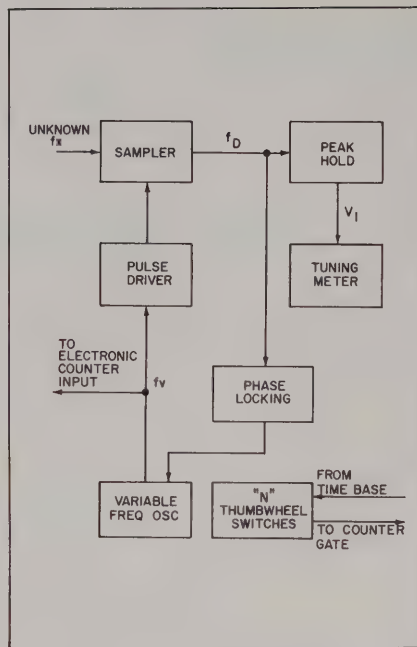

Figure 7. Frequency measurement with HP 5257A Transfer Oscillator using new transfer oscillator principle; counter measures sampling frequency of sampler.
The 5257A operates in a manner analogous to a stroboscope which uses a flashing lamp for measuring vibrational or rotary speeds. That is, if the 5257A variable frequency oscillator output frequency (Figure 7) is set to any sub-harmonic (N) of the unknown input frequency f_x , then V_1 will be